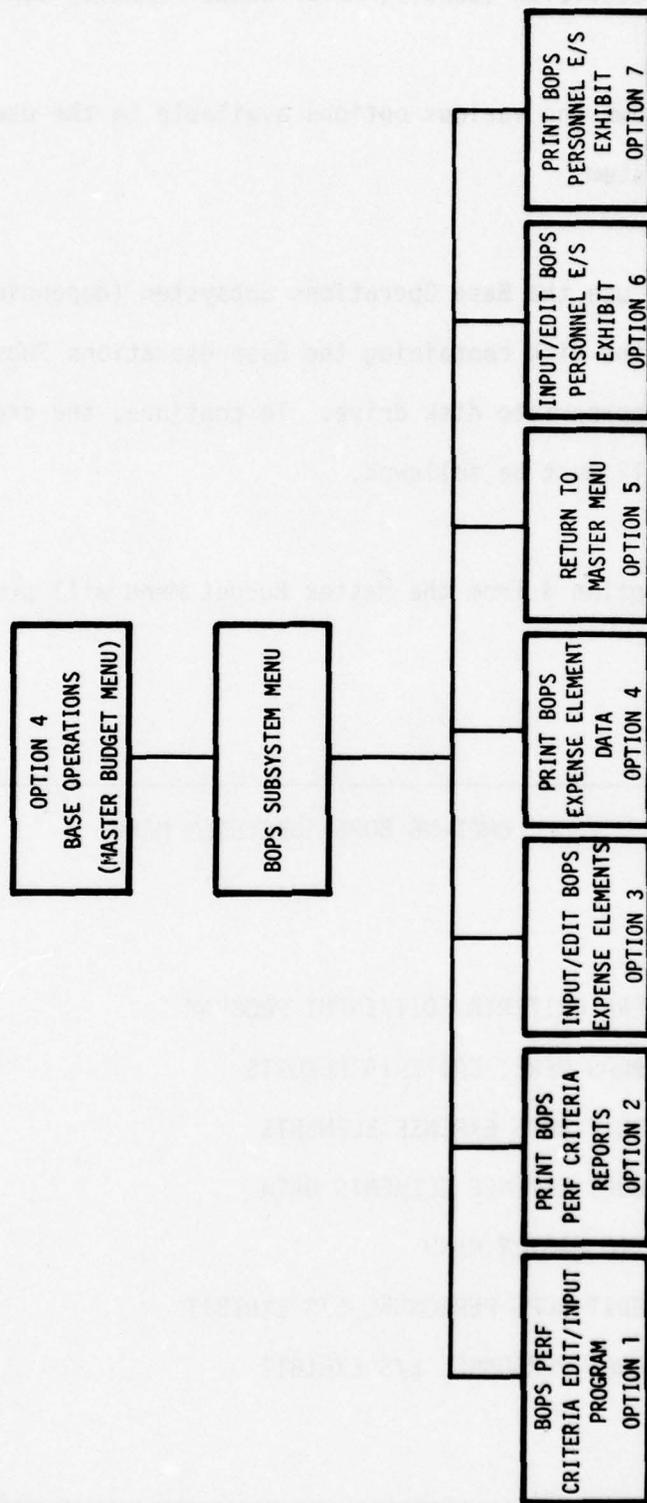

Figure 5. Base Operations Subsystem
Figure 5 shows the various options available to the user of the Base Operations Subsystem.
2. The print options 4 and 7 of the CNET-N6 BOPS Subsystem Menu (figure 5) are the same as the above print option and consequently will not be discussed further.